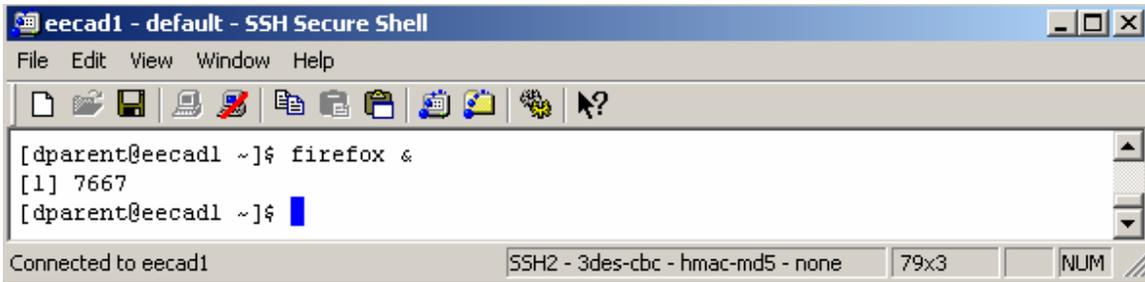

Figure 1. Starting a Web Browser.
2. Start a web browser (Figure 1).